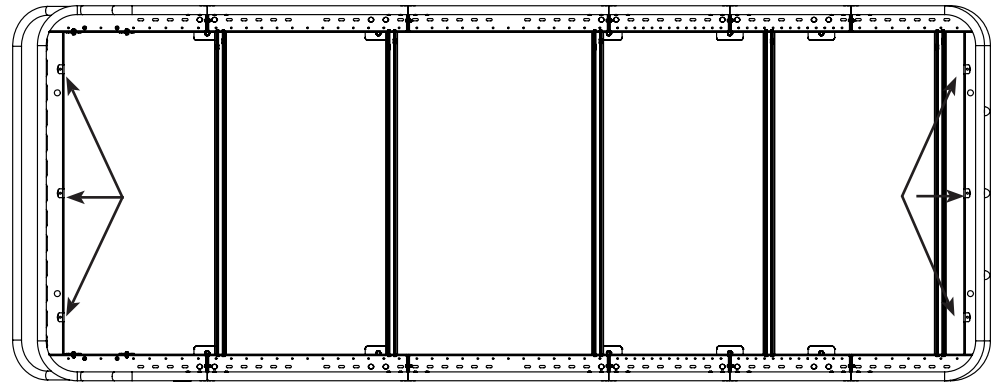

FIG 26
11.1 Attach Clip Nuts to Baskets: Install the **Clip Nuts** to the **Front and Rear Basket** locations as shown in **FIG 26**.